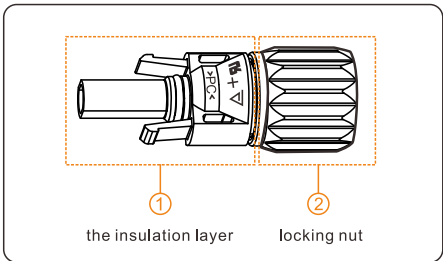
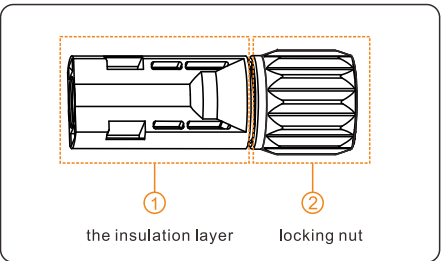

Figure 5.8 Positive connector compositions
Figure 5.9 Negative connector compositions
c. Connectors of PV Strings: Positive and negative DC input connectors are used, as shown in Figure 5.8 and Figure 5.9.